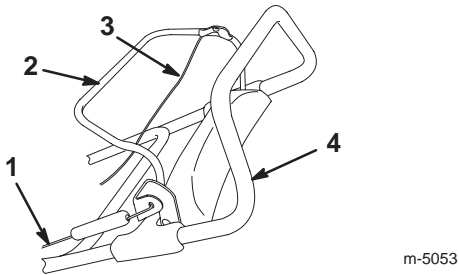

Figure 2
1. Cut the tie that secures the rotor control cable (Fig. 2) to the handle.
Important Ensure that the rotor control cable and the traction drive cable are properly adjusted (Fig. 2). Refer to Adjusting the Rotor Control Cable on page 12, and to Adjusting the Traction Drive Cable on page 14.